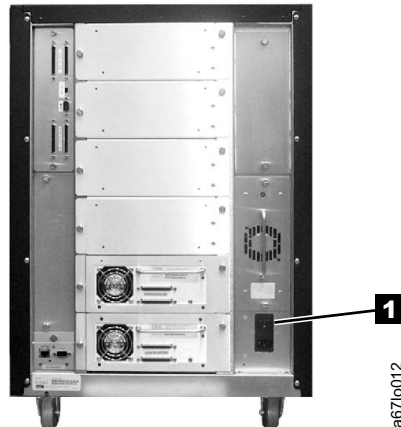

Figure 42. Main power switch
1. Ensure that the power switch is set to off by pressing O on the power switch (see **1** in Figure 42).